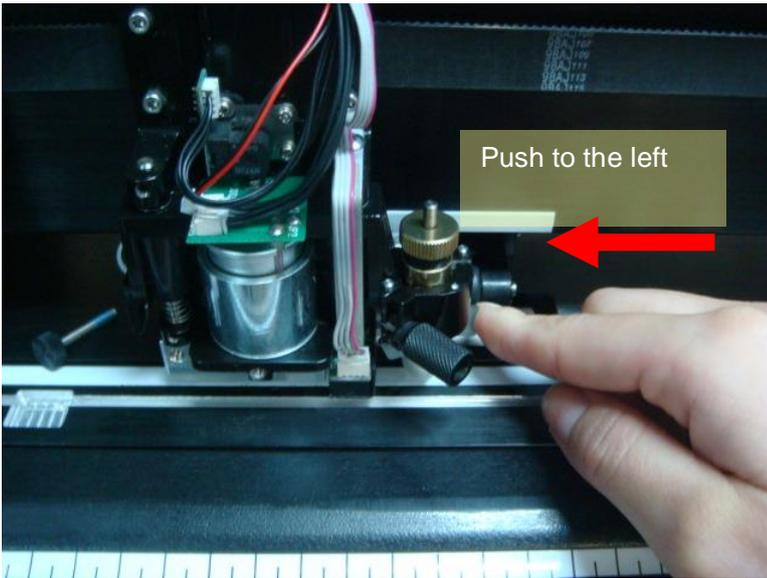

Figure 2-50
**Step 9** Assemble the Cut-off Unit back to the Tool Carriage by pushing the metal board on the right while pushing the Cut-off Unit upwards (Figure 2-50 and 2-51) and attaching the screw (Figure 2-52).